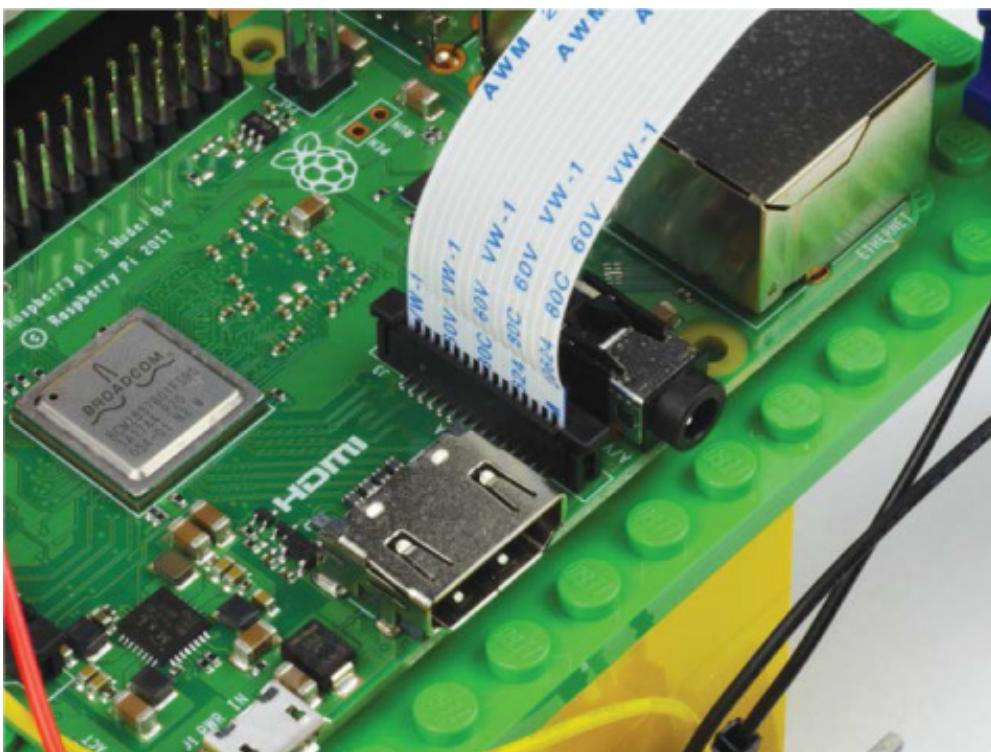

FIGURE 8-6 My correctly connected Camera Module ribbon cable
4. Then, while holding the ribbon cable in place, place a finger on both sides of the CSI port and push it back down at the same time. If both sides don’t close simultaneously, then one side will not close properly and the cable may come loose. Figure 8-6 shows a properly attached ribbon cable. Notice that a fraction of the silver contacts are just visible, and they’re all parallel with the board.